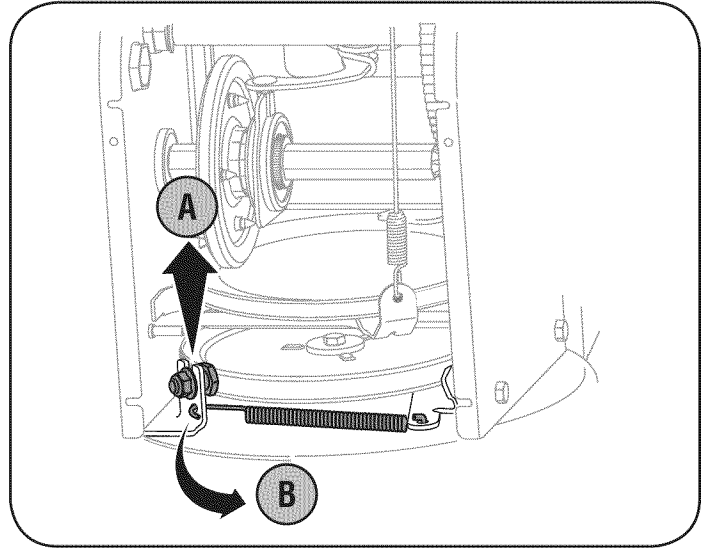

Figure 25
- Remove the belt as follows. Refer to Figure 25.